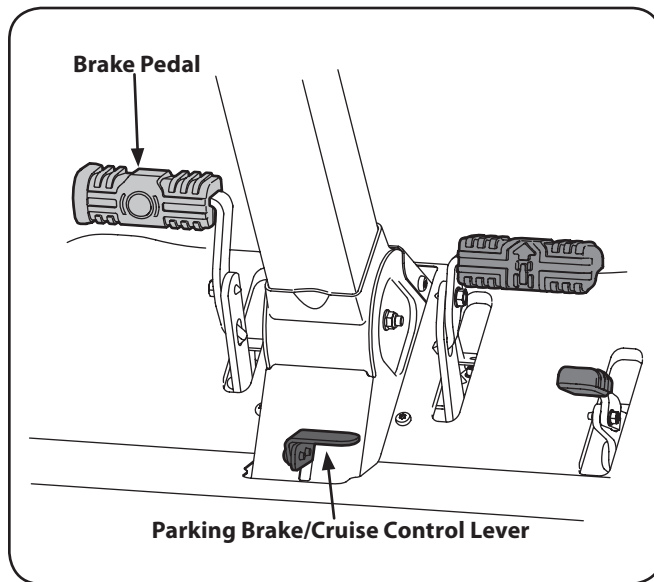

Figure 5-1
2. Engage the parking brake by pressing forward on the brake pedal (○), then press down on the parking break/cruise control lever and then release the brake pedal (○). Refer to Figure 5-1.
3. Make certain the PTO switch is in the disengaged (down) position. Refer to Figure 5-1.
4. Move the choke control or throttle/choke control into the full choke position. Refer to Figure 5-1.